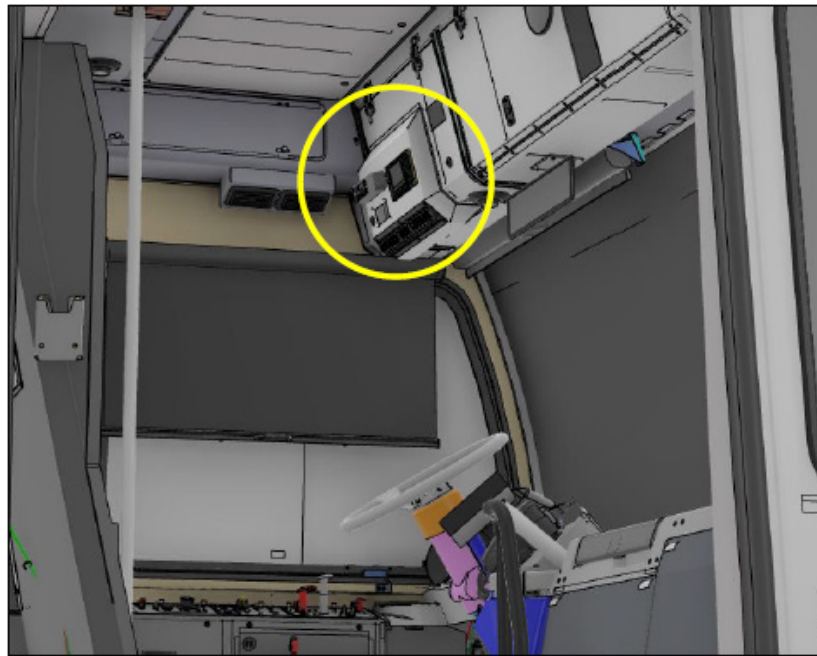

Figure 3 - MCC Screen Location
1.5. Open the upper driver panel and locate the MCC display screen (see figures 3 & 4).